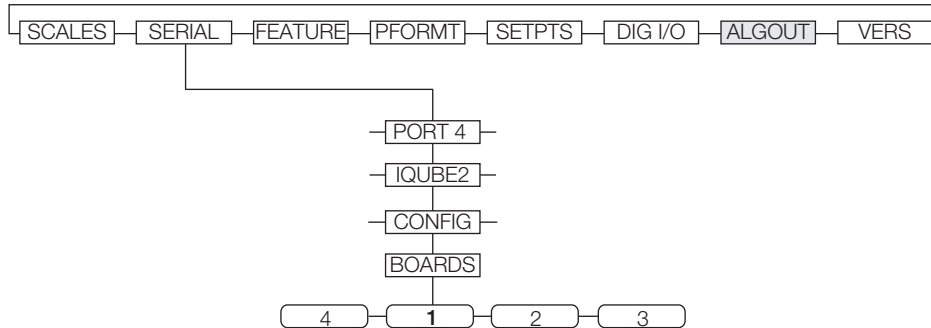

Figure 4-3. Boards Menu Selection
1. Navigate through the *Serial* menu as shown in Figure 4-3.